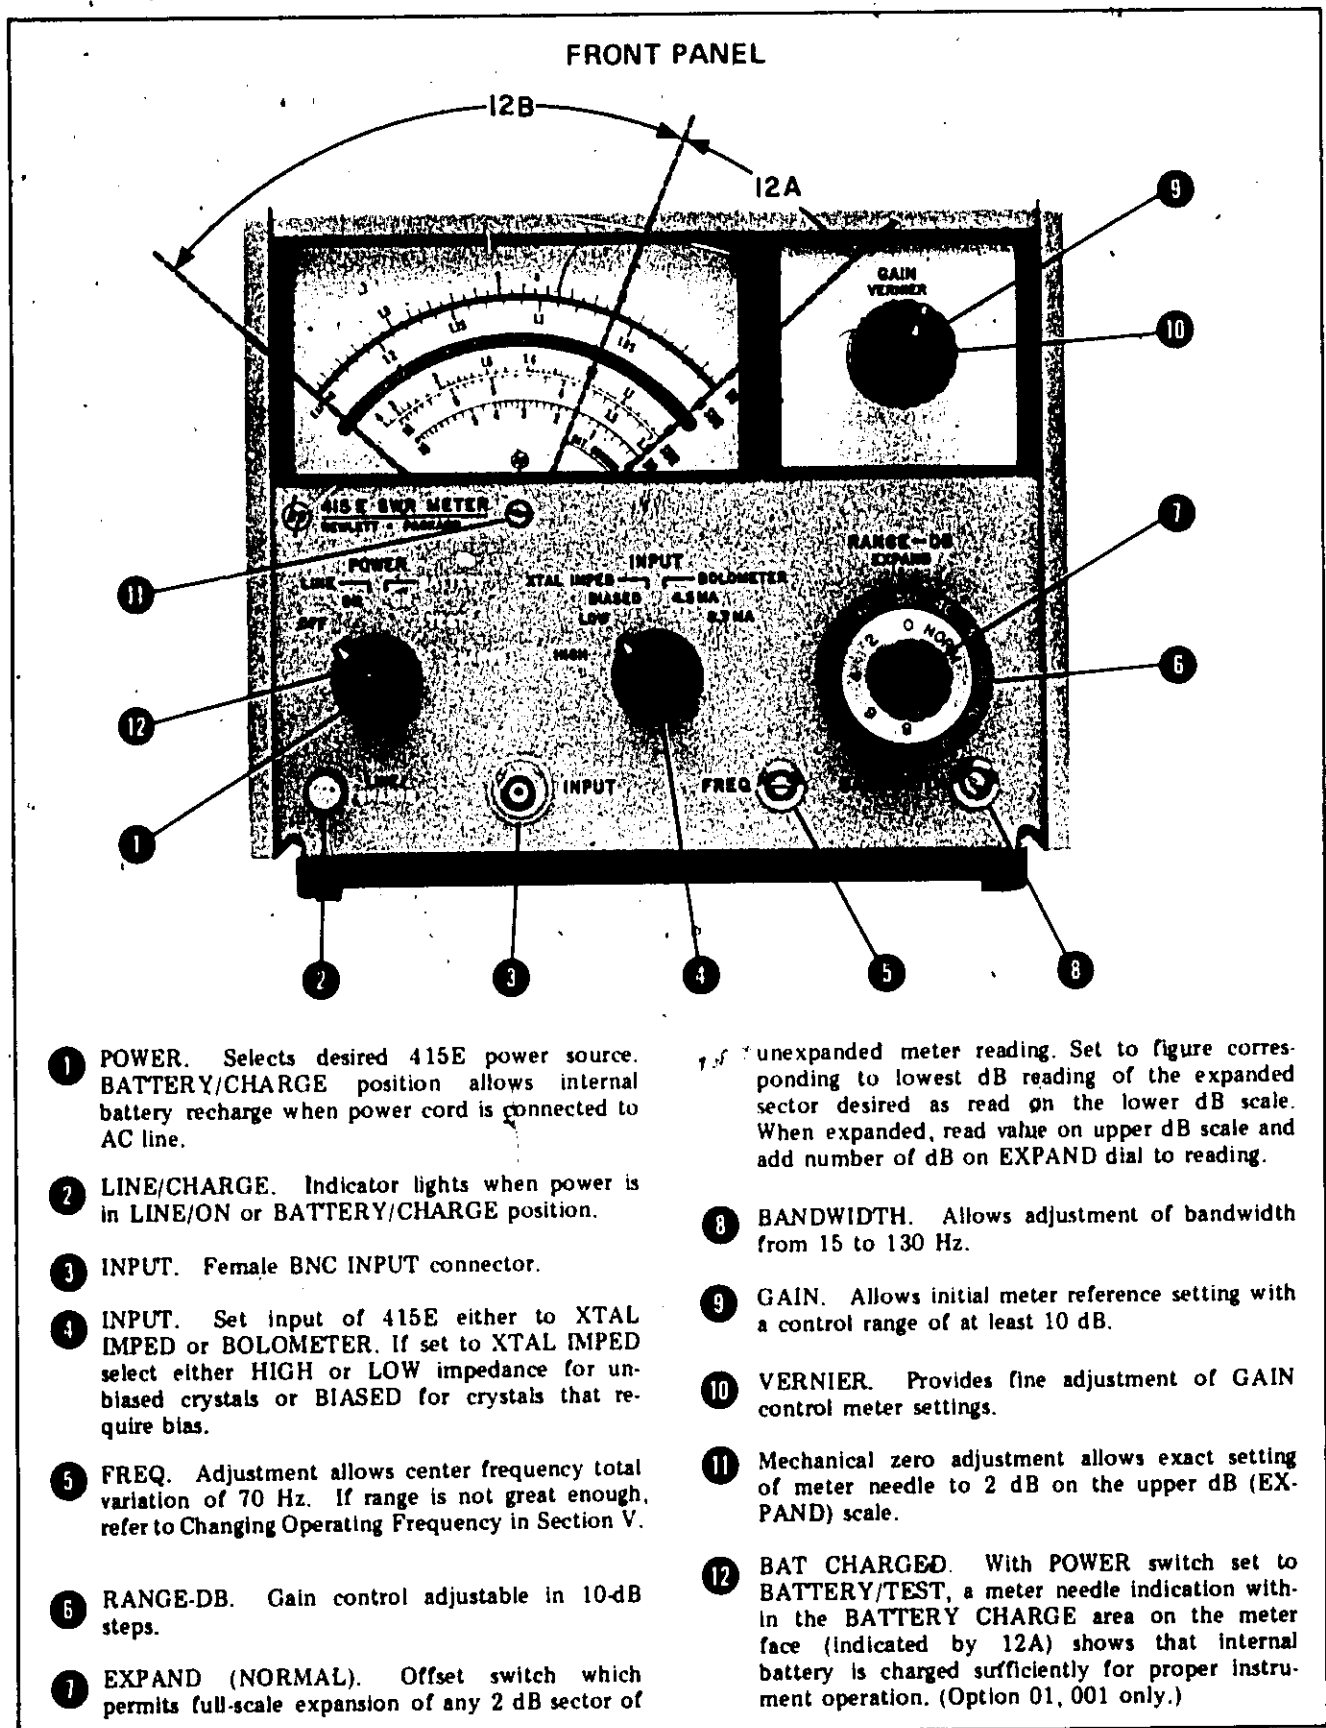

Figure 3-1. Front Panel Features
b. Set POWER switch to TEST position, the meter needle indication should be within the BAT CHARGED area (see Figure 3-1).
3-4. Figures 3-1 and 3-2 identify by number the front and rear panel features of the Model 415E. The descriptions are keyed by number to the figures. Further information regarding the various settings and uses of the controls, indicators, connectors, and adjustments is included in the procedures of this section. Information on the battery is found in paragraph 3-6.